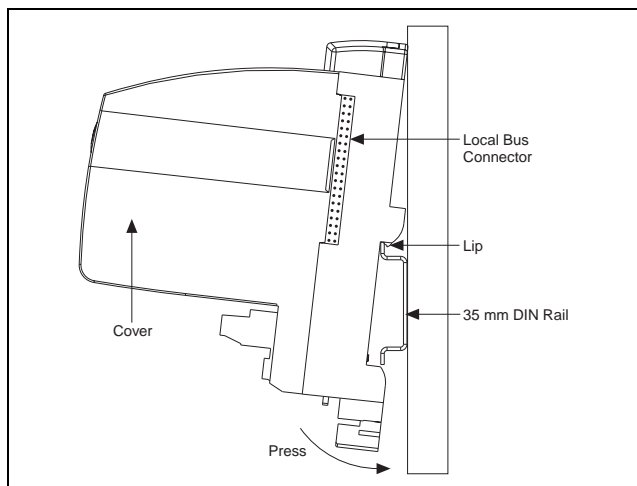

Figure 2. Mounting the FP-1600 onto a DIN Rail
- a. Hook the lip on the rear of the FP-1600 onto the top of a 35 mm DIN rail and press the FP-1600 down onto the DIN rail, as shown in Figure 2.